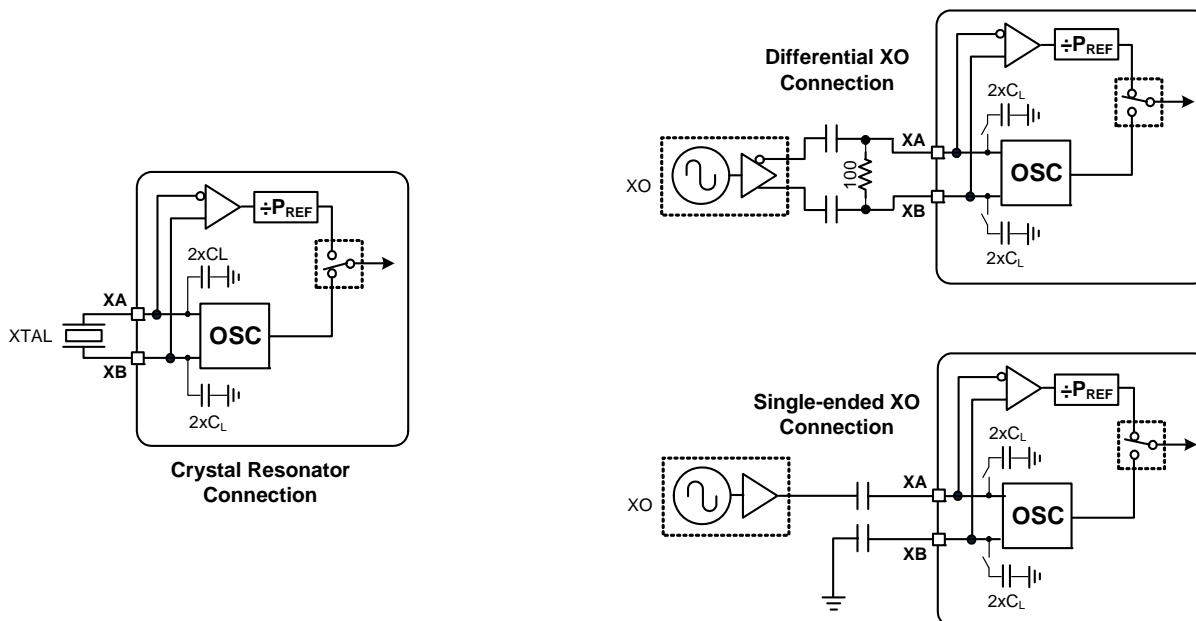

Figure 7. Crystal Resonator and External Reference Clock Connection Options
The Si5341/40 can also accommodate an external reference clock (REFCLK) instead of a crystal. This allows the use of crystal oscillator (XO) instead of a XTAL. Selection between the external XTAL or REFCLK is controlled by register configuration. The internal crystal load capacitors ( $C_L$ ) are disabled in the REFCLK mode. Refer to Table 3 for REFCLK requirements. Both a single-ended or a differential REFCLK can be connected to the XA/XB pins as shown in Figure 7. A  $P_{REF}$  divider is available to accommodate external clock frequencies higher than 54 MHz. Frequencies in the range of 48 MHz to 54 MHz will achieve the best output jitter performance.